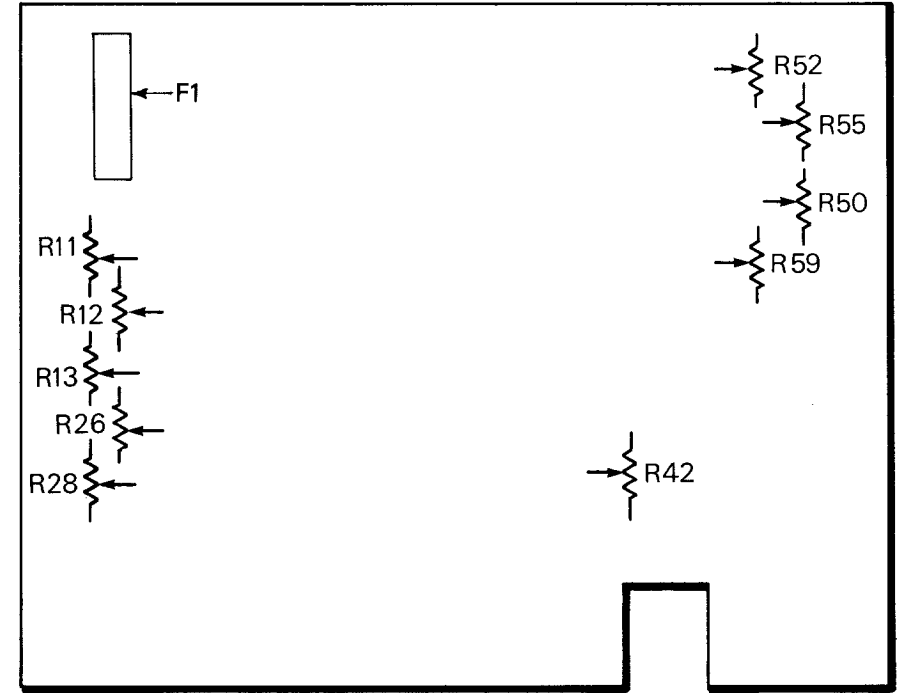

Fig. 18. Trimpot location.
Refer to Fig. 18 for trimpot location and Table 1 for trimpot function.
4. Symmetry Adjustments (Refer to Fig. 18 for location of Trimpots R26 and R28).
3. Change fuse F1 (see Fig. 18 for location). Use $\frac{1}{8}$ A, 3AG slow blow for 105-130 volt operation, or $\frac{1}{6}$ A, 3AG slow blow for 210-260 volt operation.